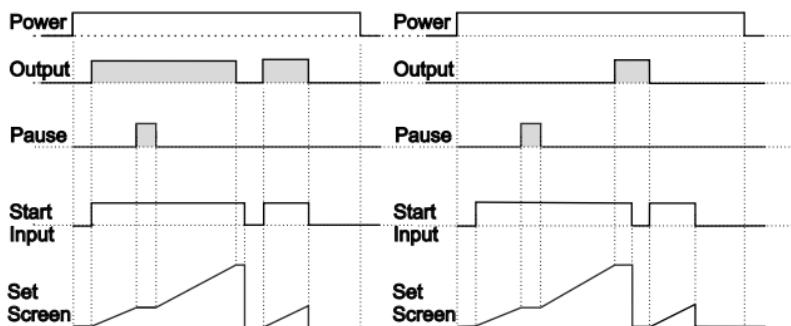

Figure 3.3
3.2.1 If Upcount `dEct` =0 and `butF` is `0-n` the control diagram is shown in Figure 3.3